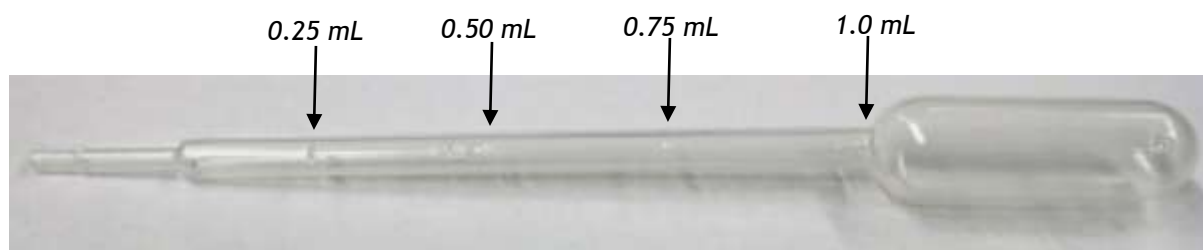

Figure 1 - A disposable plastic pipette with scale marks indicated by arrows.
- A 1.0 mL disposable plastic pipette with scale marks (see Figure 1 below)